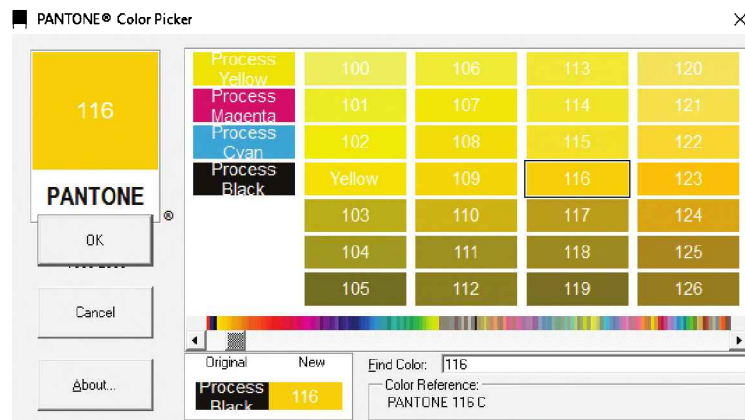

FIGURE 12-3.13 PANTONE Color Picker
35. Pick any color you like (Figure 12-3.13).